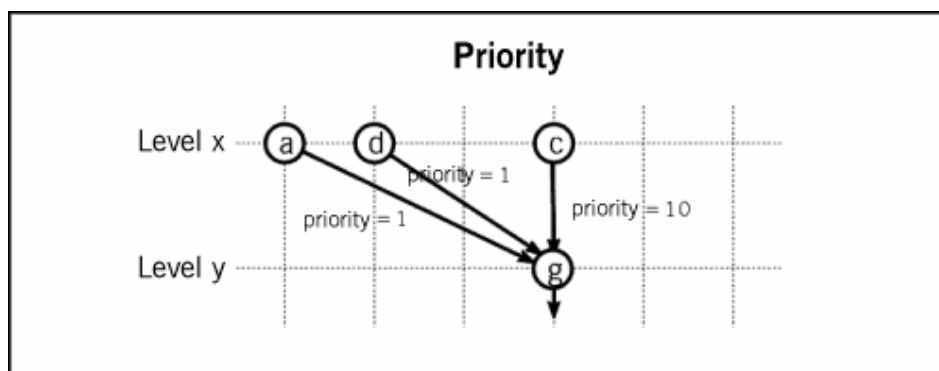

Figure 145: Schematic representation - Priority
- Priority:** By providing an integer value n for this parameter you can specify how important an instance of this relation class is in comparison with instances of other relation classes. When arranging the objects within a model it is more likely that two objects joined with this relation will be horizontal or parallel with each other (see fig. 145). E.g. objects, which are joined by a relation of high priority are more likely to be positioned above or beside each other.